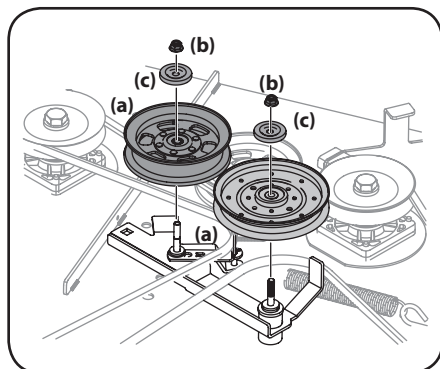

Figure 4-19
3. Remove the two idler pulleys (a) by removing the flange lock nuts (b) and pulley caps (c) that secure them to the deck and the idler arm. See Figure 4-19. Do not lose any of the hardware when removing the flange lock nuts (b).